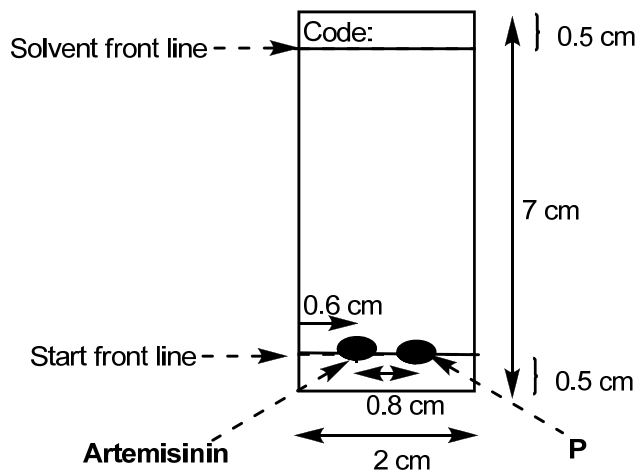

Figure 2.2. Instruction of TLC plate preparation
1. Check your TLC plate before use. Unused damaged plates will be replaced upon request without penalty. Use the pencil to draw the start front line, and the line where the solvent front will be run to **exactly as shown in Figure 2.2**. Write your student code on the top of the TLC plate in pencil.
3. Spot the artemisinin solution and the product solution on the TLC plate using two different glass capillary spotters so the finished plate is as shown in Figure 2.2.